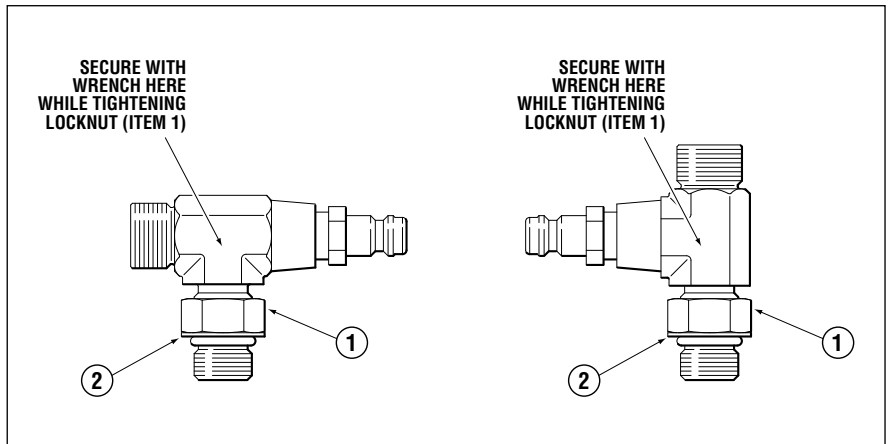

Figure 19.
- 1 Back off lock nut (item 1, figure 19), counter-clockwise, until it stops.
- 2 Thread fitting into cylinder body until fitting washer (item 2, figure 19) contacts the face of the cylinder port. Tighten hand tight, DO NOT TORQUE FITTING INTO GLAND.
- 4 While holding fitting with a wrench, tighten the locknut (item 1, figure 19) and torque to 40–43 ft-lb.
Failure to properly tighten the locknut (item 1, figure 19) may lead to loss of steering control. Loss of steering control may result in unpredictable boat behavior, collision with an obstacle and/or ejection from vessel, leading to property damage, personal injury and/or death.